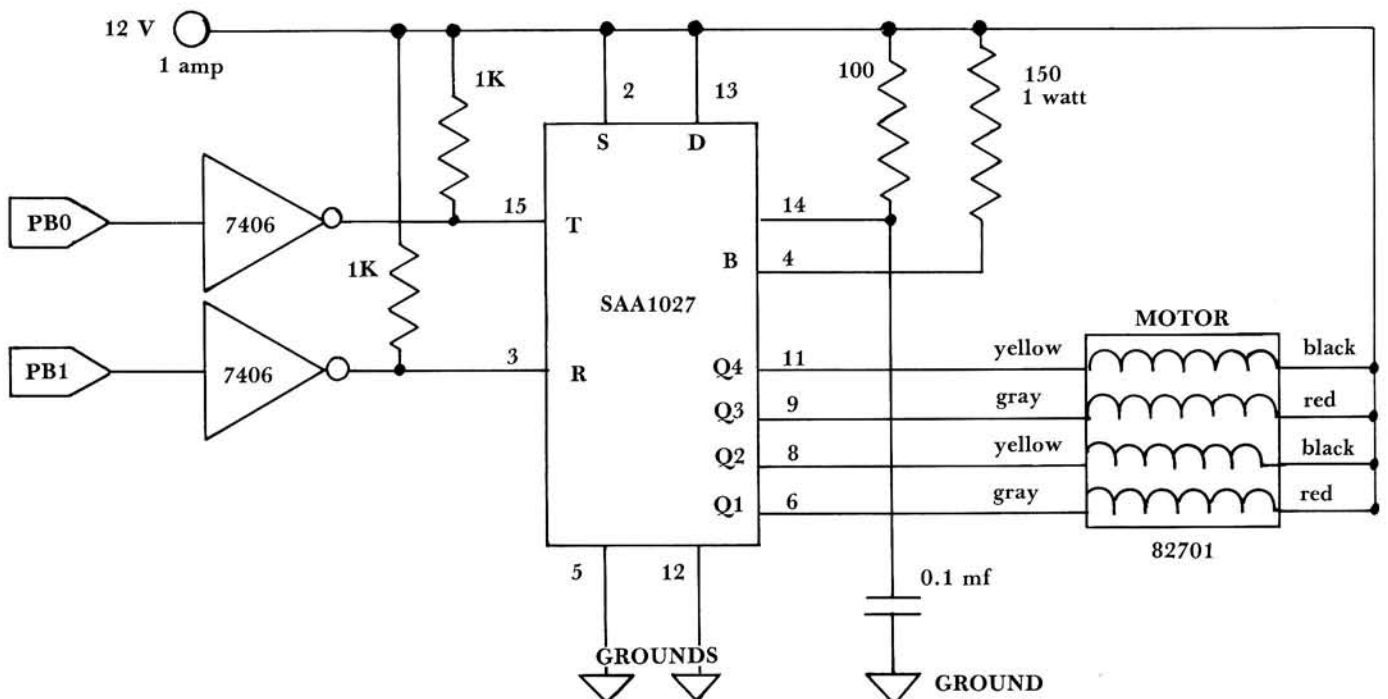

Figure 1. Stepper motor interface. The SAA1027 is a special driver integrated circuit. The 7406 will also require five volts for its own power.
The circuit shown in Figure 1 and the programs given in Listing 1 allow you to drive a stepper motor with your 6502 based microcomputer. Why run a stepper motor? Perhaps to drive a solar panel to follow the sun, homebrew your own x-y plotter, run a pump at a preselected rate, or turn your robot's head. Whatever your application may be, here is some information to get you started working with stepper motors. You will want to get additional information from the following companies:
The circuit of Figure 1 consists of a 7406 inverter with high voltage open-collector outputs. Two pins of the Port B application port on the computer drive the 7406 which in turn controls the trigger (T) input and the rotation direcn (R) input on the stepper motor IC driver. The driver chip controls the stepper motor.